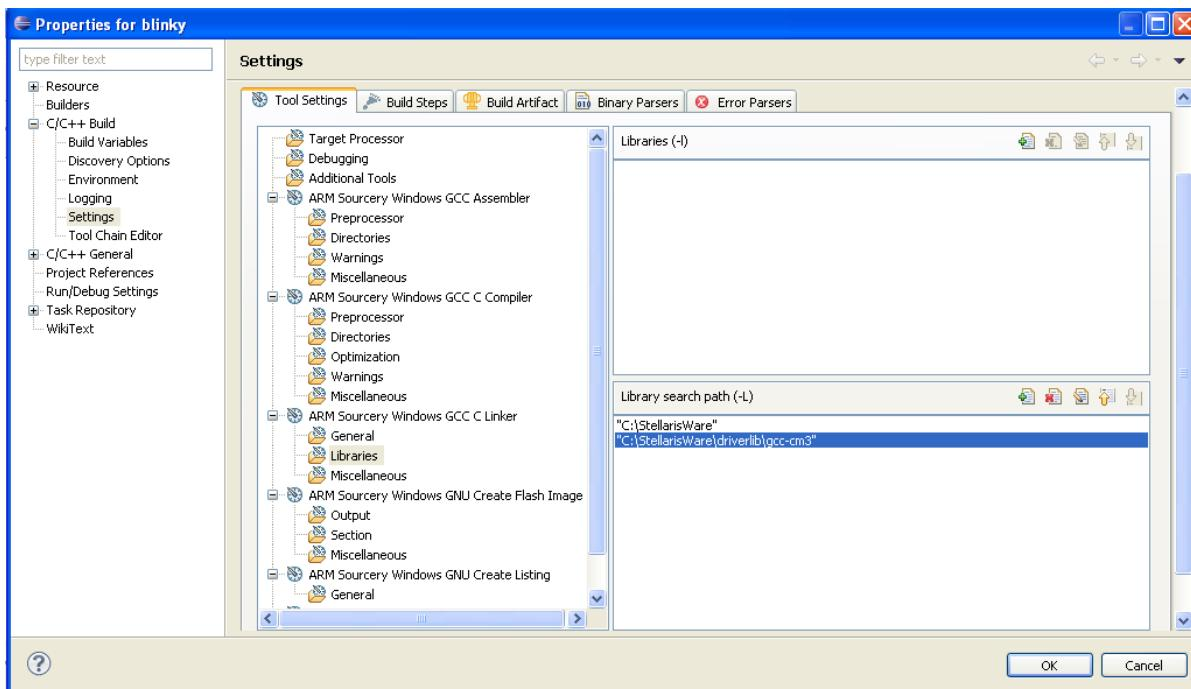

Figure 11.16 Add Directory Path
- Add the two directory paths as shown in Figure 11.16.